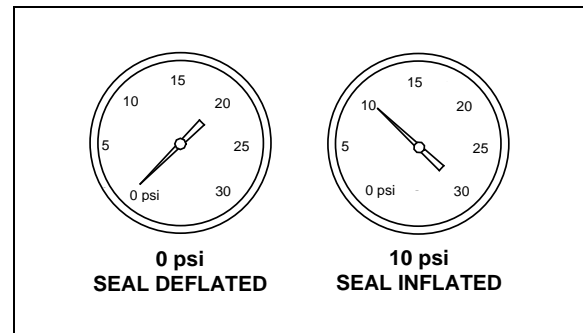

FIGURE 93: INFLATABLE SEAL PRESSURE GAGE
- Finally, the inflatable seal can be re-inflated by turning the shut-off valve handle counterclockwise. Check the pressure gage on the inflatable seal regulator to see if the pressure is increasing to 10 psi (Figure 93).
7. Finally, the inflatable seal can be re-inflated by turning the shut-off valve handle counterclockwise. Check the pressure gage on the inflatable seal regulator to see if the pressure is increasing to 10 psi (Figure 93).